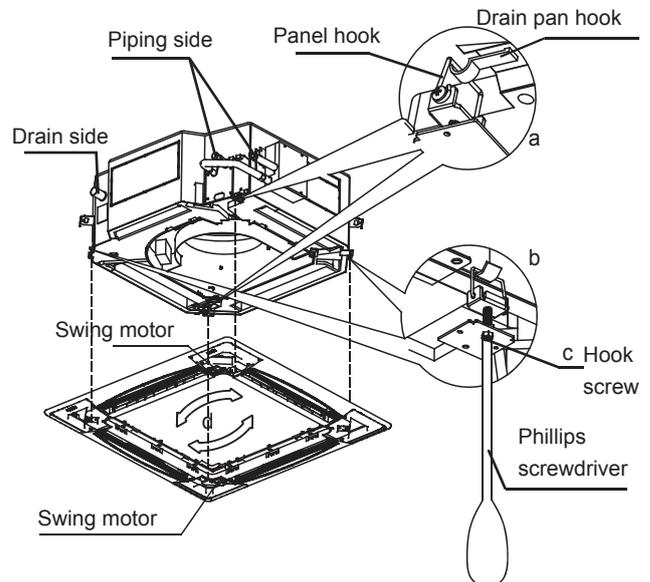

Figure 4.19
- (1) Align the "PIPING SIDE" and "DRAIN SIDE" sections marked on the panel with the corresponding copper pipe connection and water discharge connection in the unit body.
- (2) During installing, first hang the swing motor side of the panel and hook on opposite of the panel in the unit body to the corresponding drain pan hook (see Figure 4.19, a). Then, hang the two remaining panel hooks on the corresponding suspension bracket of the unit body of the indoor unit (see Figure 4.19, b).
- (3) Slot the guide wire of the swing motor to the card slot on the panel, and connect the leads from the swing motor, and display box from the panel to the corresponding connections on the unit body respectively. Take care to use protective casing to wrap the connection terminals, and use a reliable fixture to secure and strengthen the safety isolation of the terminals.
- (4) Adjust the four panel hook screws (see Figure 4.19, c) to keep the panel level, and lift it evenly up to the ceiling.
- (5) Adjust the panel slightly in the "d" direction (see Figure 4.19, d), so that the centre of the panel aligns with the centre of the opening of the ceiling. Verify that the hooks in all four corners are securely in place.